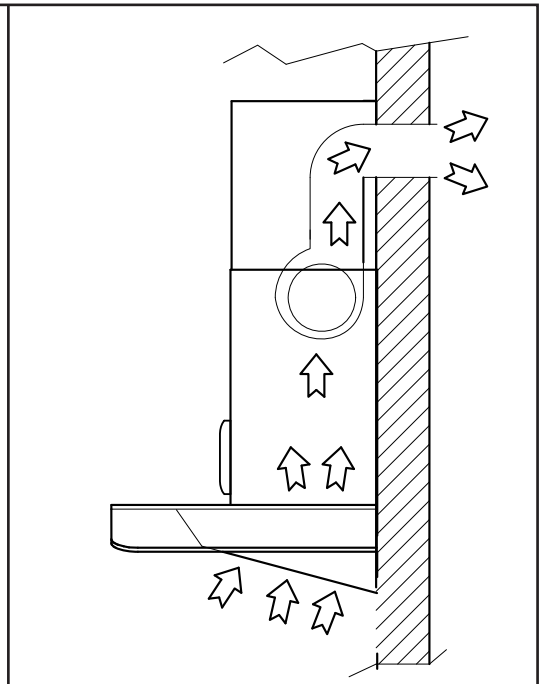

Fig.2
* In the sucking version (Fig. 2) the fumes are conveyed directly outside through a discharge duct connected to the upper section of the wall or ceiling. Neither the carbon filter nor the air deflector are needed in this case.